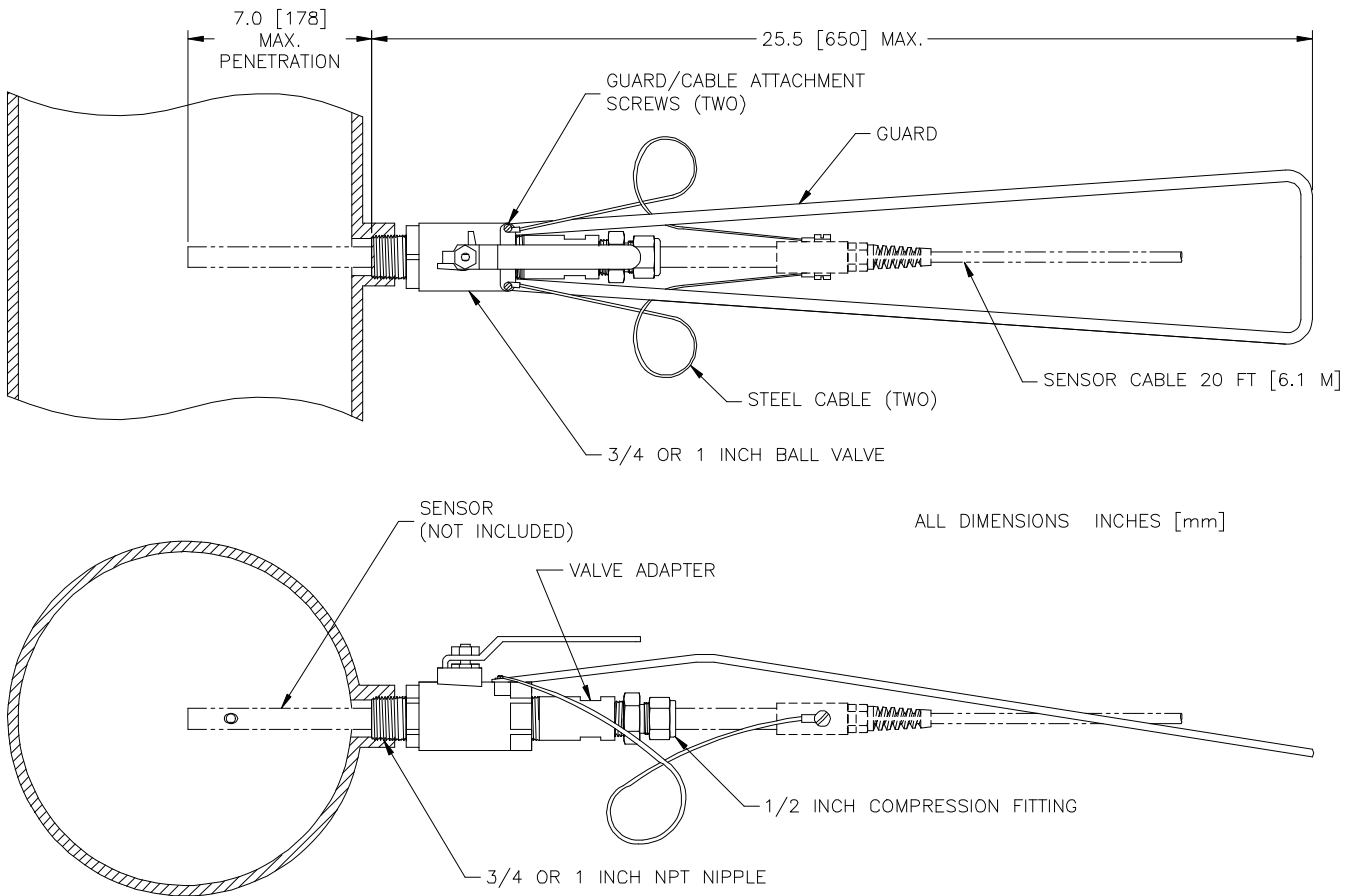

FIGURE 2-5 Ball Valve Assembly Mounting Details
- Install the sensor into the pipe run so that the process flow directly contacts the end of the sensor (Figure 2-5).
C. Insert the sensor into the compression fitting on the back of the ball valve assembly. Then adjust the insertion depth to position the sensor's "cross-flow" holes toward the center of the pipe flow (Figure 2-5).